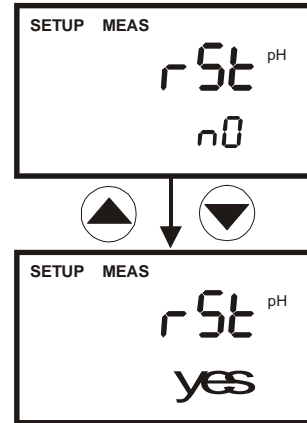

Figure 32: P4.0 - Reset to factory default values
4. Press the ENTER key to enter parameter P4.0. See Figure 32.